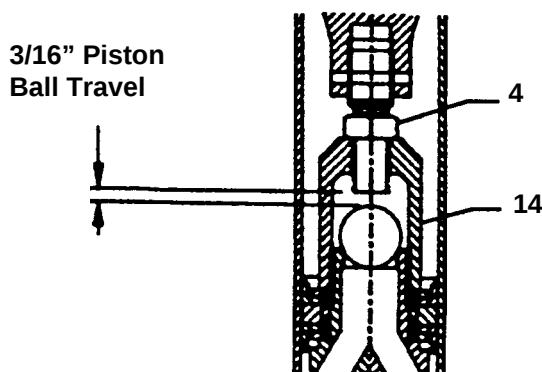

Figure 4
To change the piston ball travel, loosen the locknut (4). Turn the piston valve housing (14) counterclockwise to increase, and clockwise to decrease. Medium viscosity fluid should have a 3/16" (5 mm) ball travel. See Figure 4. Decrease the ball travel minimizes surging at stroke changeover, but too short a ball travel restricts the flow and slows down the pump.